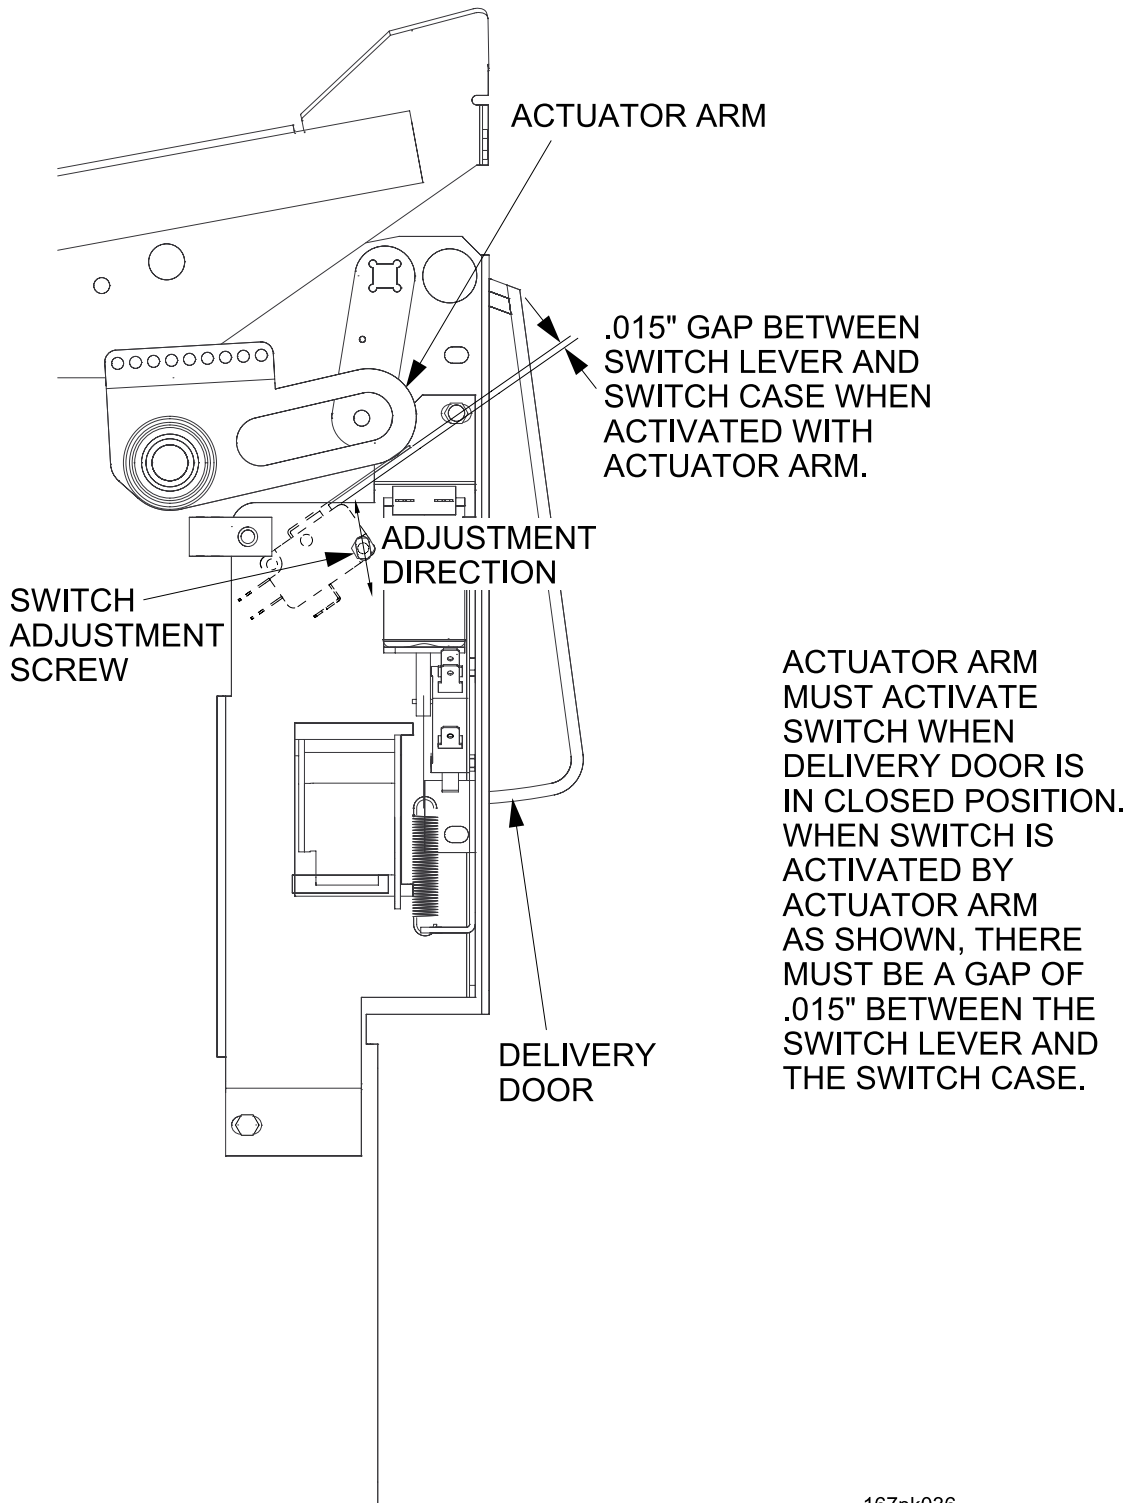

Figure 3
3. Use screws and nuts as shown to adjust the unit so it is properly positioned (see figures 3 and 4).
4. Adjust the door closed switch to obtain 0.015 open space between the switch case and the switch activation lever (see figure 3). Note: This adjustment can only be made with the vend door and actuator arm in the full closed position.